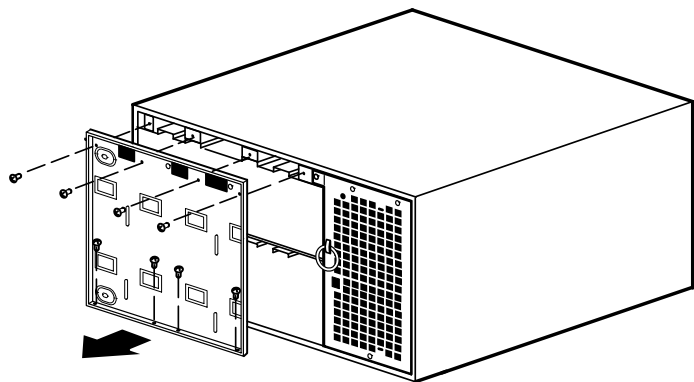

Figure 16. Removing the UPS Battery Cover Plate
3. Remove the eight screws on the battery cover plate and retain. Remove the plate and retain. See Figure 16.